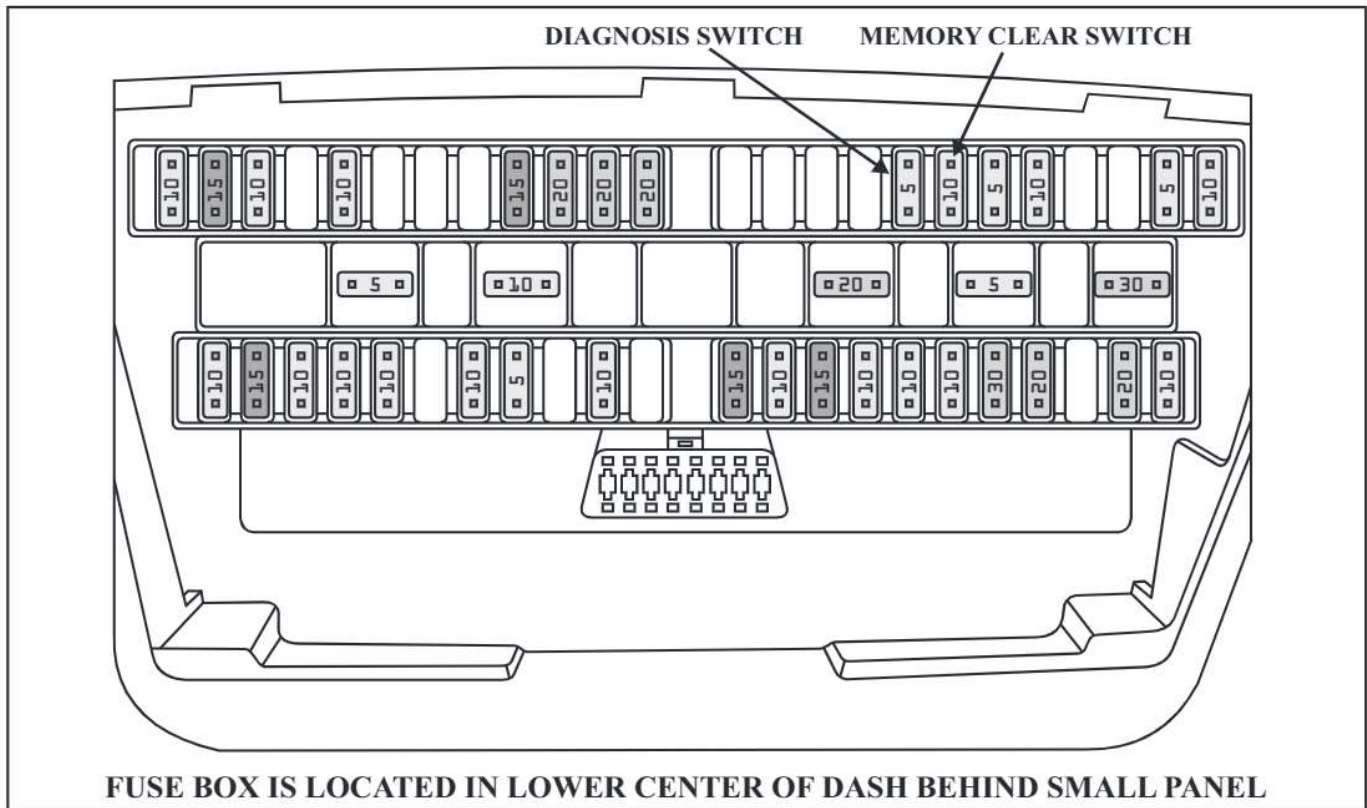

Figure 59
- 1 - Remove the A/T Diagnosis Switch (5 amp fuse) as seen in Figure 59.